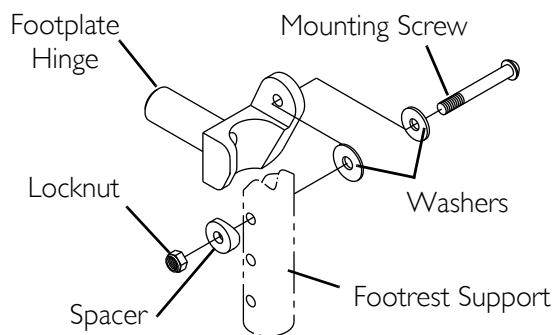

FIGURE 9.8 Installing Adjustable Angle Flip-up Footplate Hinge
NOTE: For this procedure, refer to FIGURE 9.8.
2. Position mounting screw, washers, spacer, and locknut on the footrest support as shown (FIGURE 9.8).